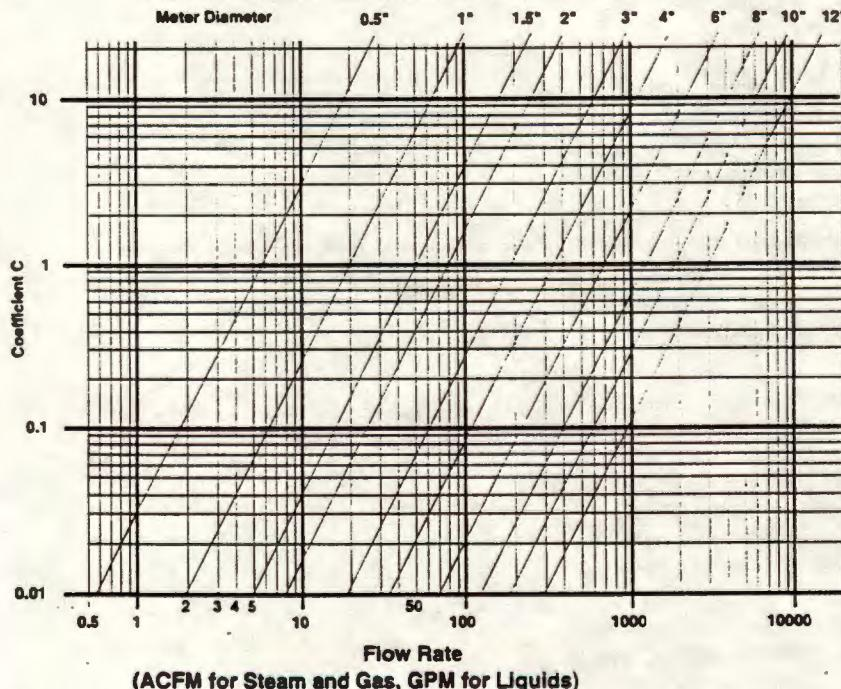

Figure 9
1. Use Figure 9 to find a coefficient value (C) based on flow rate and meter diameter. For steam and gas, read the flow on the horizontal axis in units of ACFM. For liquids, read the flow rate in units of "GPM".
- A. Steam and gas,  $\Delta p = (C)(\rho)$
- B. Liquids,  $\Delta p = (C)(SG)$
1. From Figure 9, the Coefficient (C) for 600 GPM flow through a 6" meter is 0.7.